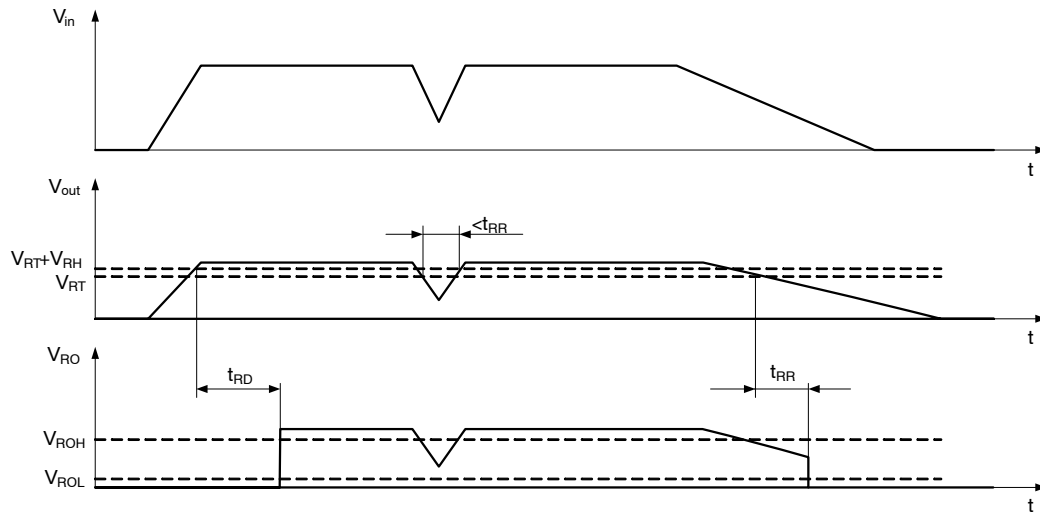

Figure 28. Reset Function and Timing Diagram
A reset signal is provided on the Reset Output (RO) pin to provide feedback to the microprocessor of an out of regulation condition. The timing diagram of reset function is shown in Figure 28. This is in the form of a logic signal on RO. Output voltage conditions below the RESET threshold cause RO to go low. The RO integrity is maintained down to $V_{out} = 1.0$ V. The Reset Output (RO) circuitry includes internal pull-up connected to the output (V_{out}) No external pull-up is necessary.